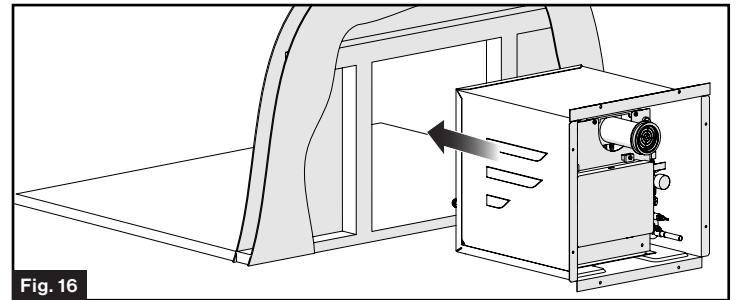

Fig. 16
1. Position the water heater carefully into the frame opening, evenly space the flange to the exterior wall of the RV. (Fig. 16)